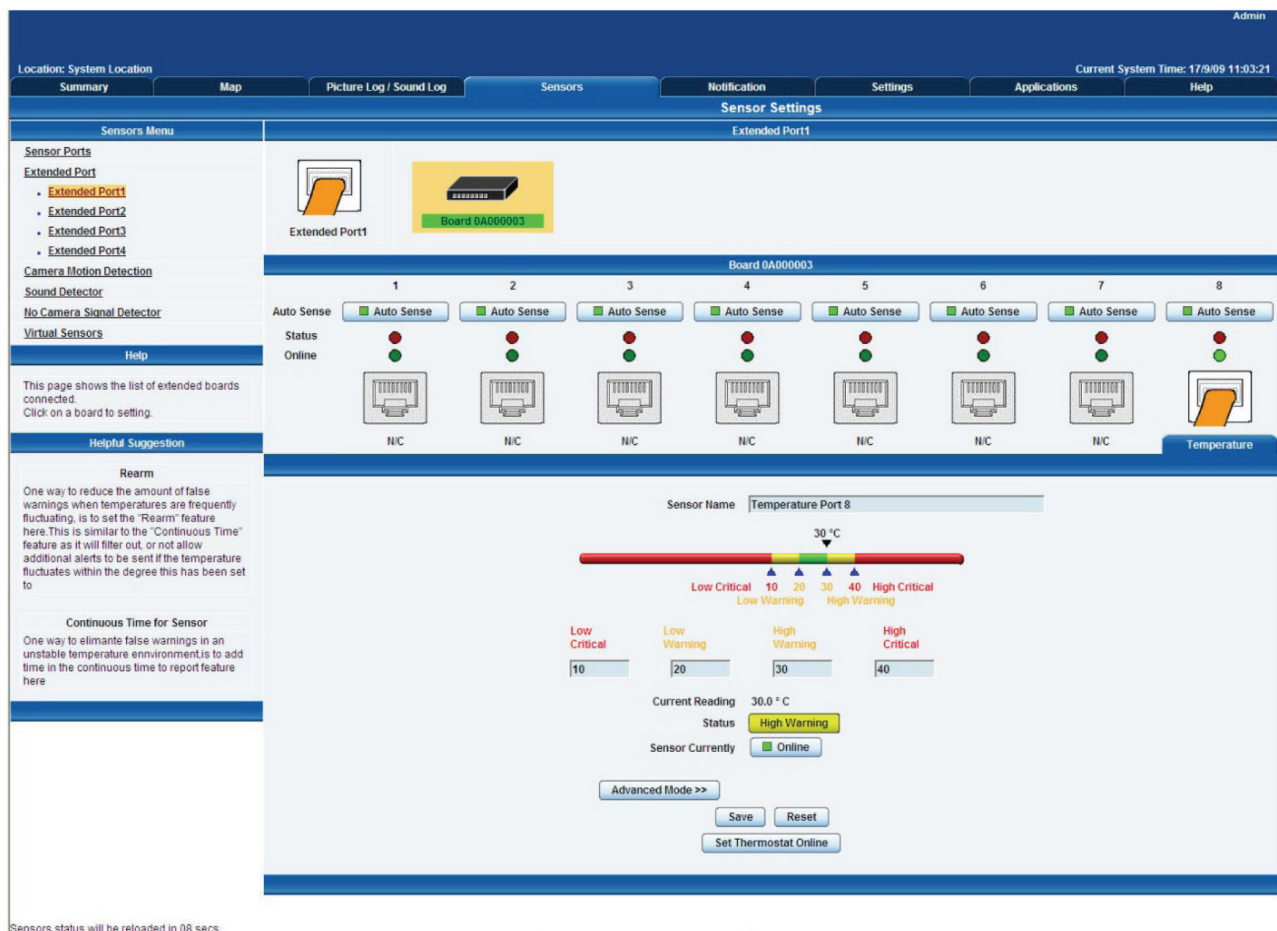

Figure 3-10. Sensor Settings page for Temperature Sensor on Port 1.
7. The page shown in Figure 3-10 appears.